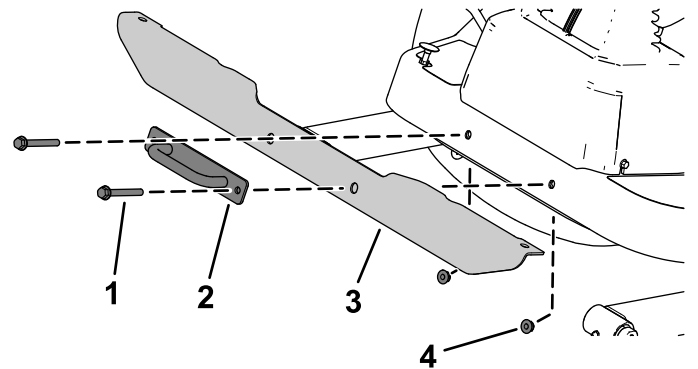

Figure 12
2. Secure the light cross mount to the platform using the previously removed bolts, nuts, and tie-down bracket (Figure 12).